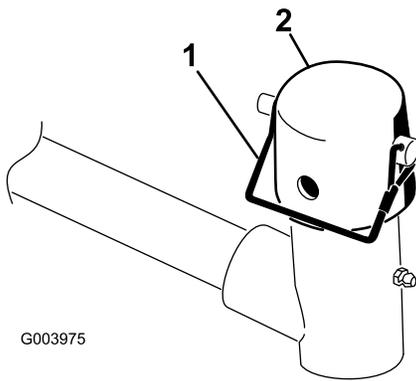

Figure 6
3. At each cutting unit lift arm, remove the snapper pin that secures the cap to the pivot yoke, and remove the cap (Figure 6).